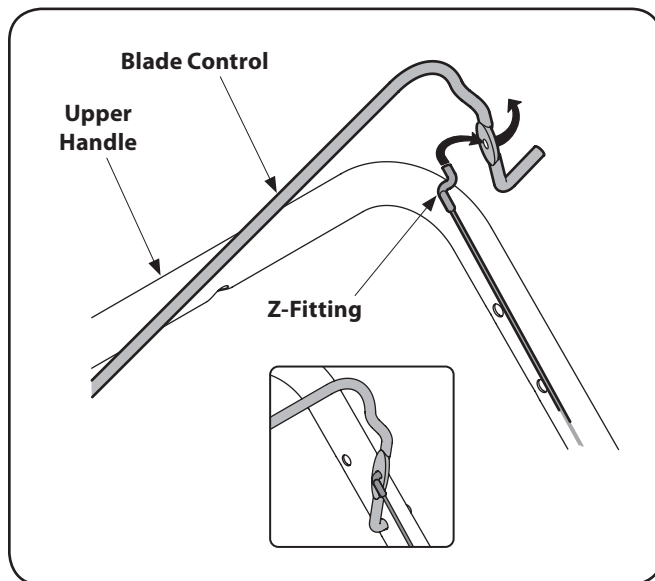

Figure 3-12
1. To make it easier to attach the Z fitting, temporarily remove the left side of the blade control as shown in Figure 3-12.
2. Hook the Z end of the control cable into the control from the inside to outside. See Figure 3-12.